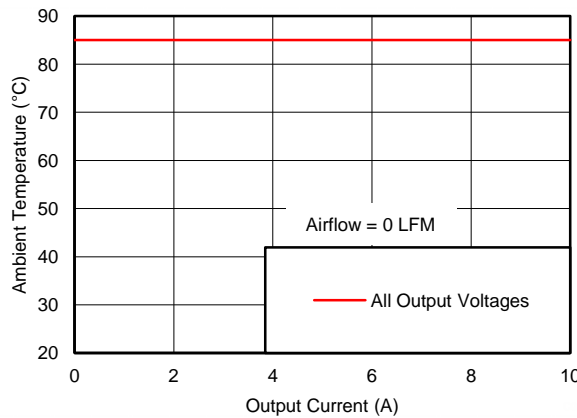

Figure 17. Safe Operating Area
- (2) The temperature derating curves represent the conditions at which internal components are at or below the manufacturer's maximum operating temperatures. Derating limits apply to devices soldered directly to a 100 mm × 100 mm double-sided PCB with 2 oz. copper. Applies to Figure 17.